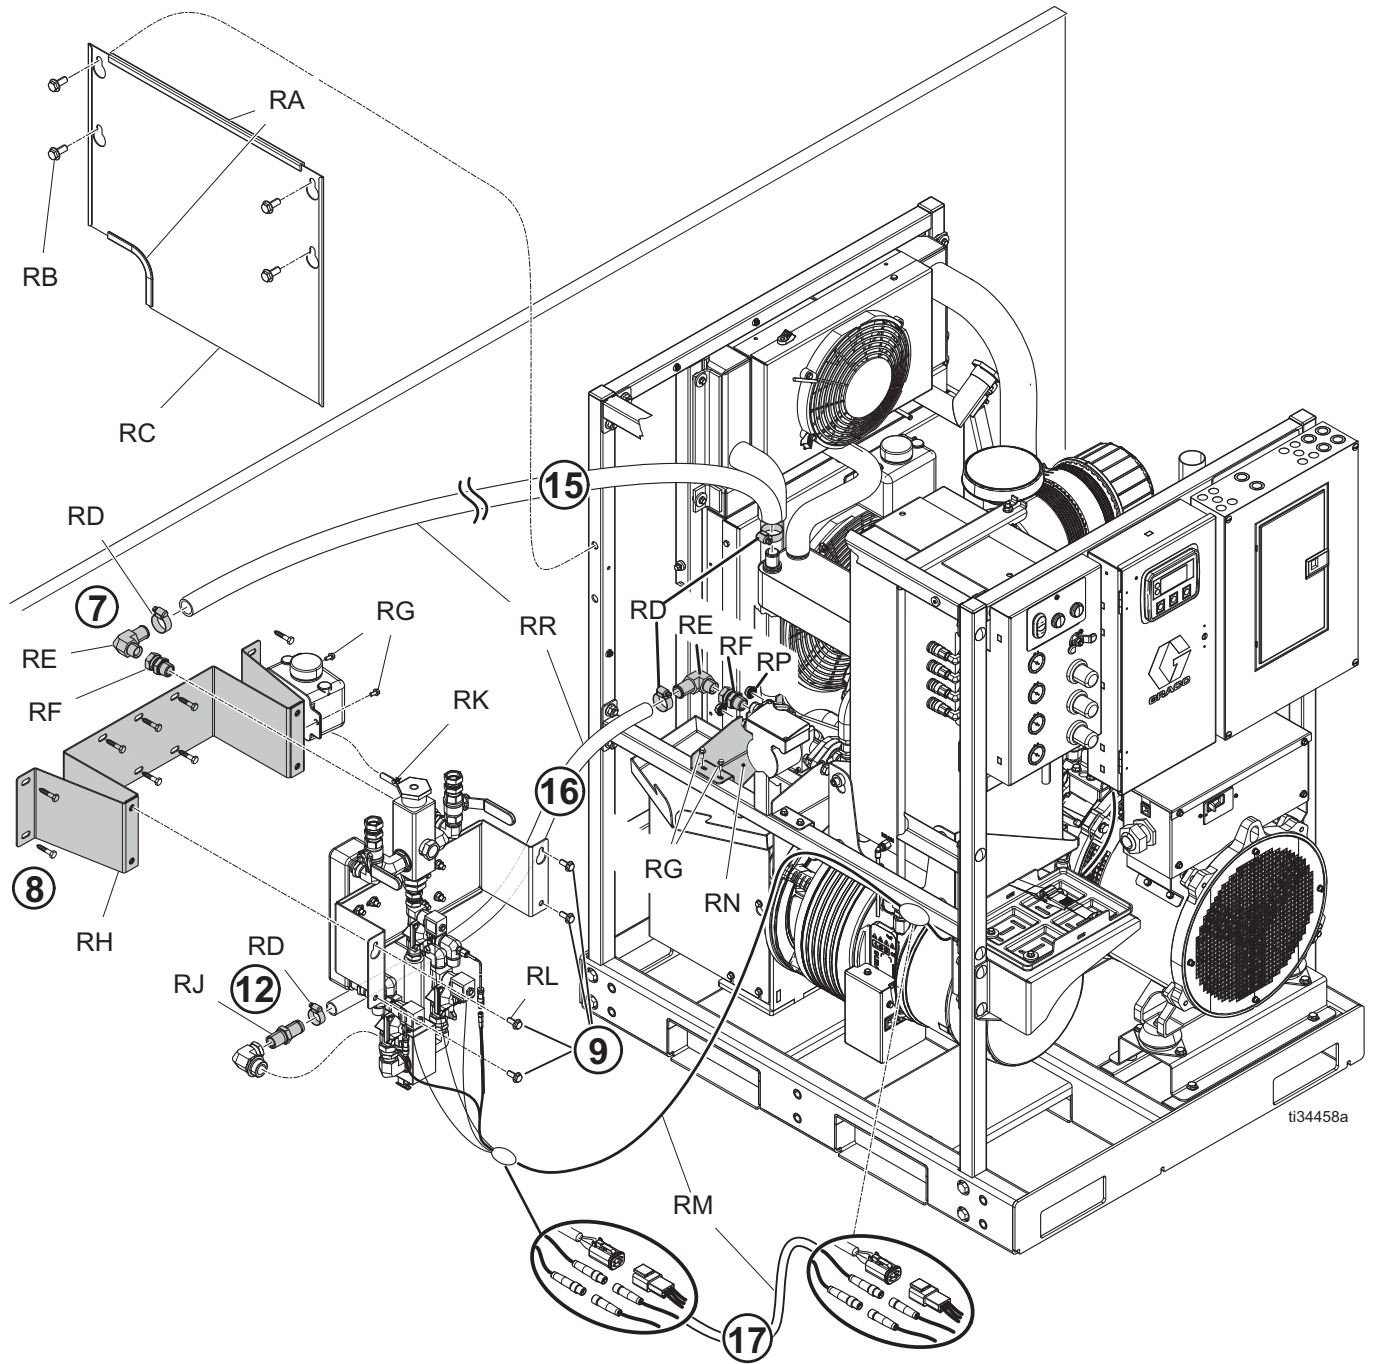

FIG. 14: Relocate the Heat Exchanger
7. Install the street elbow hose barb fitting (RE) onto the swivel fitting (RF). See FIG. 14.
8. Secure the heat exchange relocation bracket (RH) at the same height as the heat exchanger was mounted on the system.